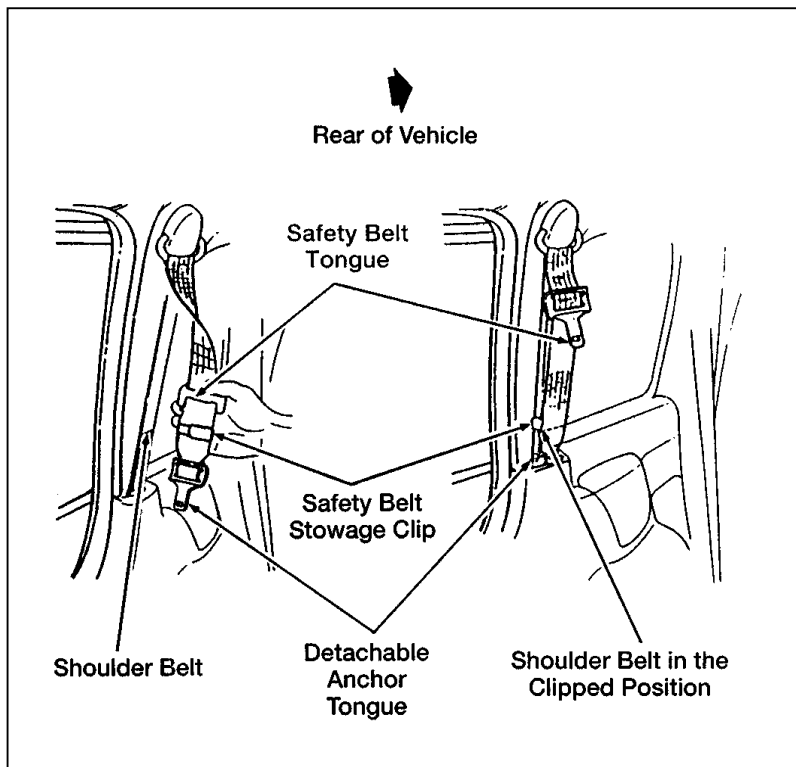

Figure 2: Securing the detachable shoulder belt
2. Using the clip attached to the end of the shoulder belt, clip the end of the belt to the stationary portion of the shoulder belt coming out of the trim (see Figure 2). The end of the shoulder belt **must** be clipped in order to keep it from striking anything during vehicle operation.